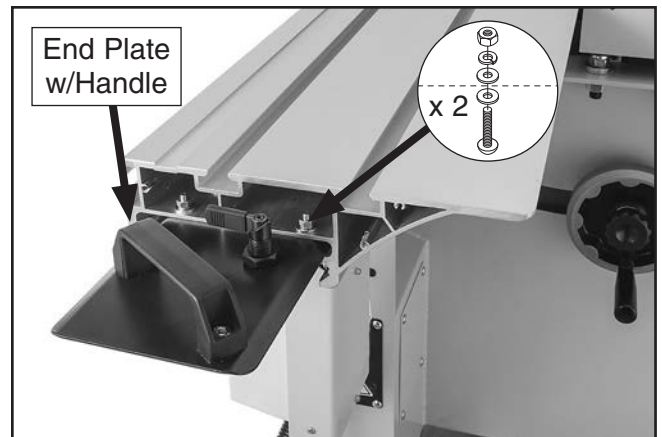

Figure 20. End plate with handle installed onto sliding table.
3. Pull sliding table forward a few inches and attach end plate with handle, as shown in **Figure 20**, using (2) M6-1 x 20 button head cap screws, (4) 6mm flat washers, (2) 6mm lock washers, and (2) M6-1 hex nuts.